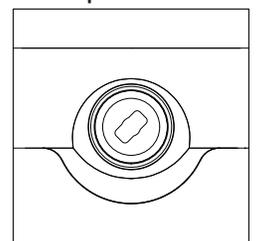

Figure 2
**2. For push button access without requiring a key:** To set the dispenser to open without requiring a key, use the key initially to turn the lock counter-clockwise to the position shown in Figure 2. The dispenser will now open by depressing the lock with a finger (without requiring a key) if the lock is left in this position. This option is generally used in restrooms where tissue or towel security is not an issue
2. Insert four new batteries ensuring the polarity is correct. (Figure 2)
#### Low Battery Indicator Light (Figure 2)
#### Low Product Indicator Light (Figure 2)
#### Paper Jam Alert Indicator Light (Figure 2)
2. Open cover, lift the rear green stub roll pressing bracket up and push to the back of the unit. (Figure 2)